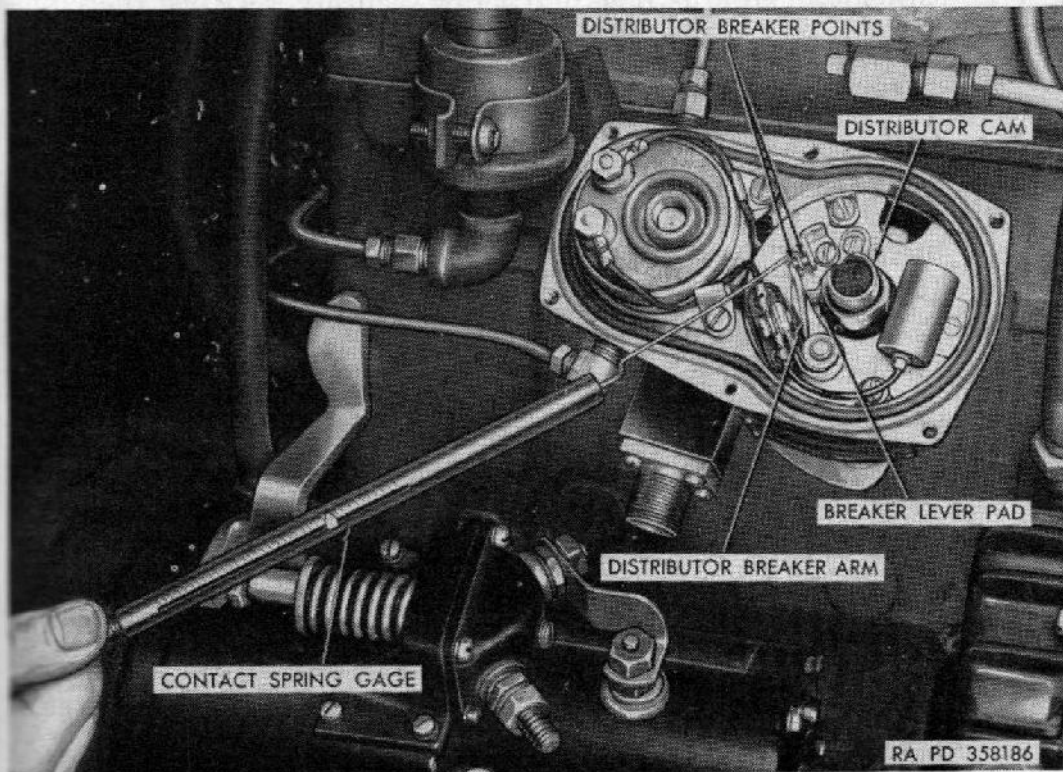

Figure 61. Testing distributor breaker arm spring tension.
- (2) Turn the engine over, with the ignition switch off, in small stages by intermittently operating starter until distributor cam (fig. 61) comes to rest with breaker lever pad (fig. 61) on the flat of the distributor cam (points closed). Using a contact spring gage (fig. 61), check the amount of pull required to open the distributor breaker points. If not within 17 to 21 ounces, adjust breaker arm spring tension by bending breaker arm spring slightly.